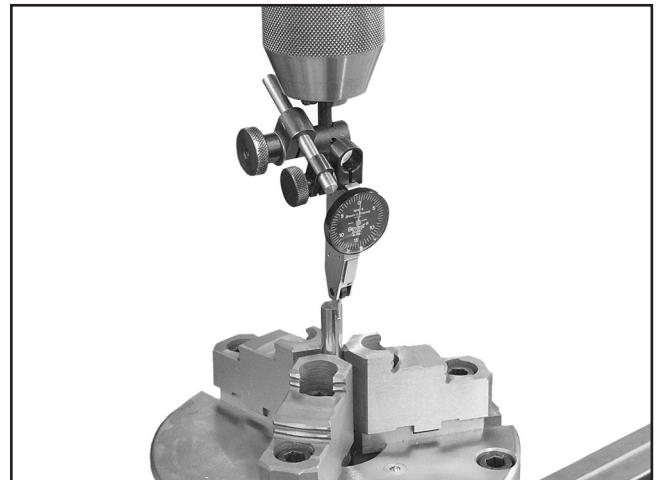

Figure 11. Horizontally aligning the chuck.
1. Mount a precision mandrel or quality drill rod into the chuck, as shown in **Figure 11**.
2. Mount a test indicator in the mill spindle, then indicate the outside of the mandrel, as shown in **Figure 11**.